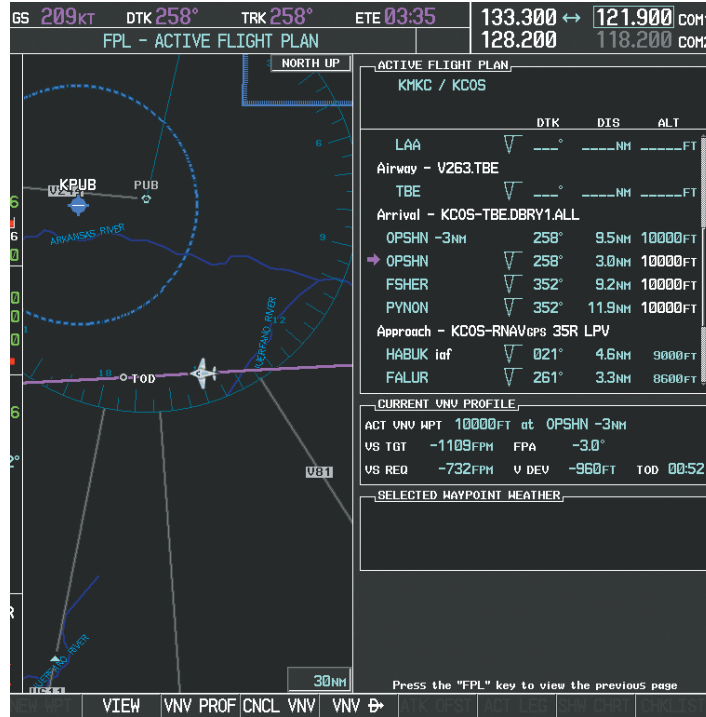
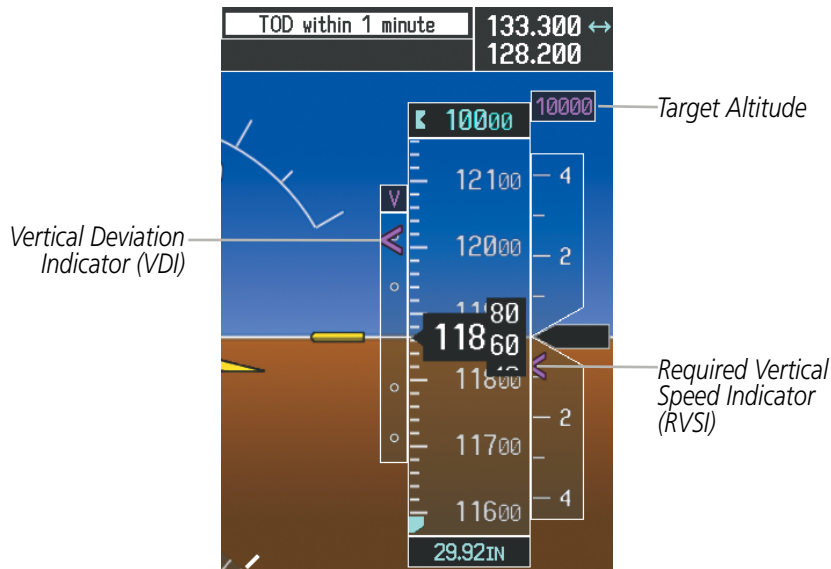

Figure 5-139 Approaching Top of Descent (TOD)
Figure 5-140 VDI & RVS Upon Reaching Top of Descent (TOD)
- 15) As seen in Figure 5-139, the aircraft is approaching TOD. Note the target vertical speed required to reach the selected altitude. The Vertical Deviation Indicator (VDI) and the Required Vertical Speed Indicator (RVS) are now displayed on the PFD as shown in Figure 5-139. When the aircraft is within one minute of the TOD, it is annunciated as shown in Figure 5-140, and an aural alert 'Vertical track' will be heard.